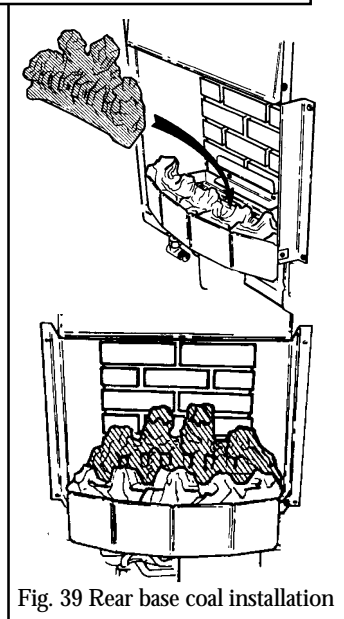

Fig. 39 Rear base coal installation
13.3 Place the rear base coal in the burner compartment behind the front coal. It should rest on the ledge at the back of the burner compartment and its rear face should touch the rear ceramic wall (See figure 39).